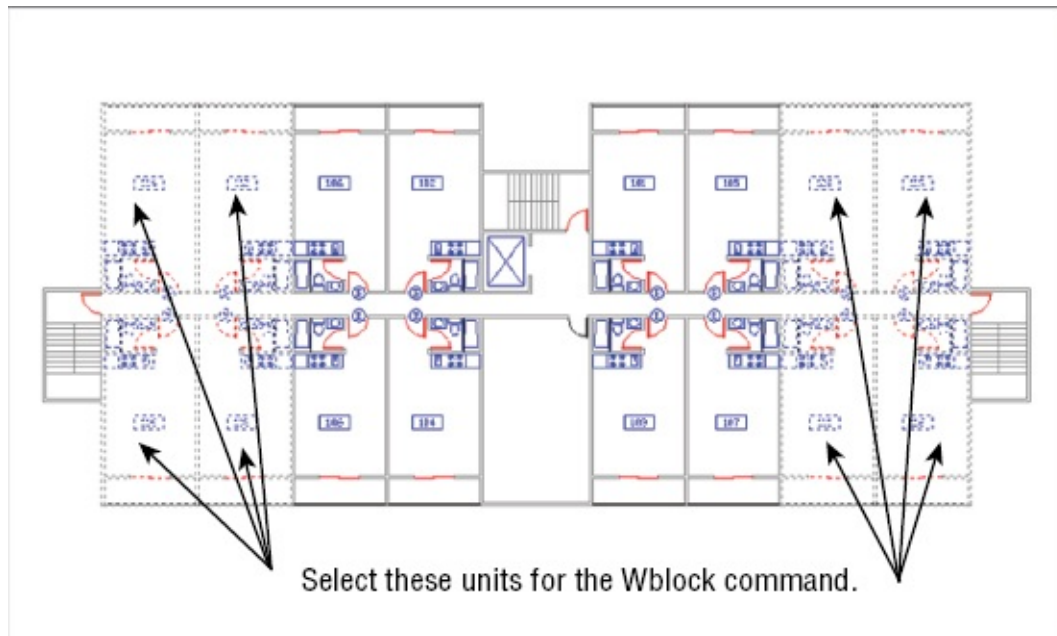

FIGURE 14.3 Units to be exported to the Floor1.dwg file
3. Use the Wblock command (enter **W** + **Enter** at the Command prompt), and write the eight units in the corners of your plan to a file called **Floor1.dwg** in your My Documents folder (see Figure 14.3). When you select objects for the Wblock, be sure to include the S-DOOR door reference symbols and apartment number symbols for those units. Use 0,0 for the Wblock insertion base point. Also make sure that the Delete From Drawing check box is selected in the Write Block dialog box before you click OK.